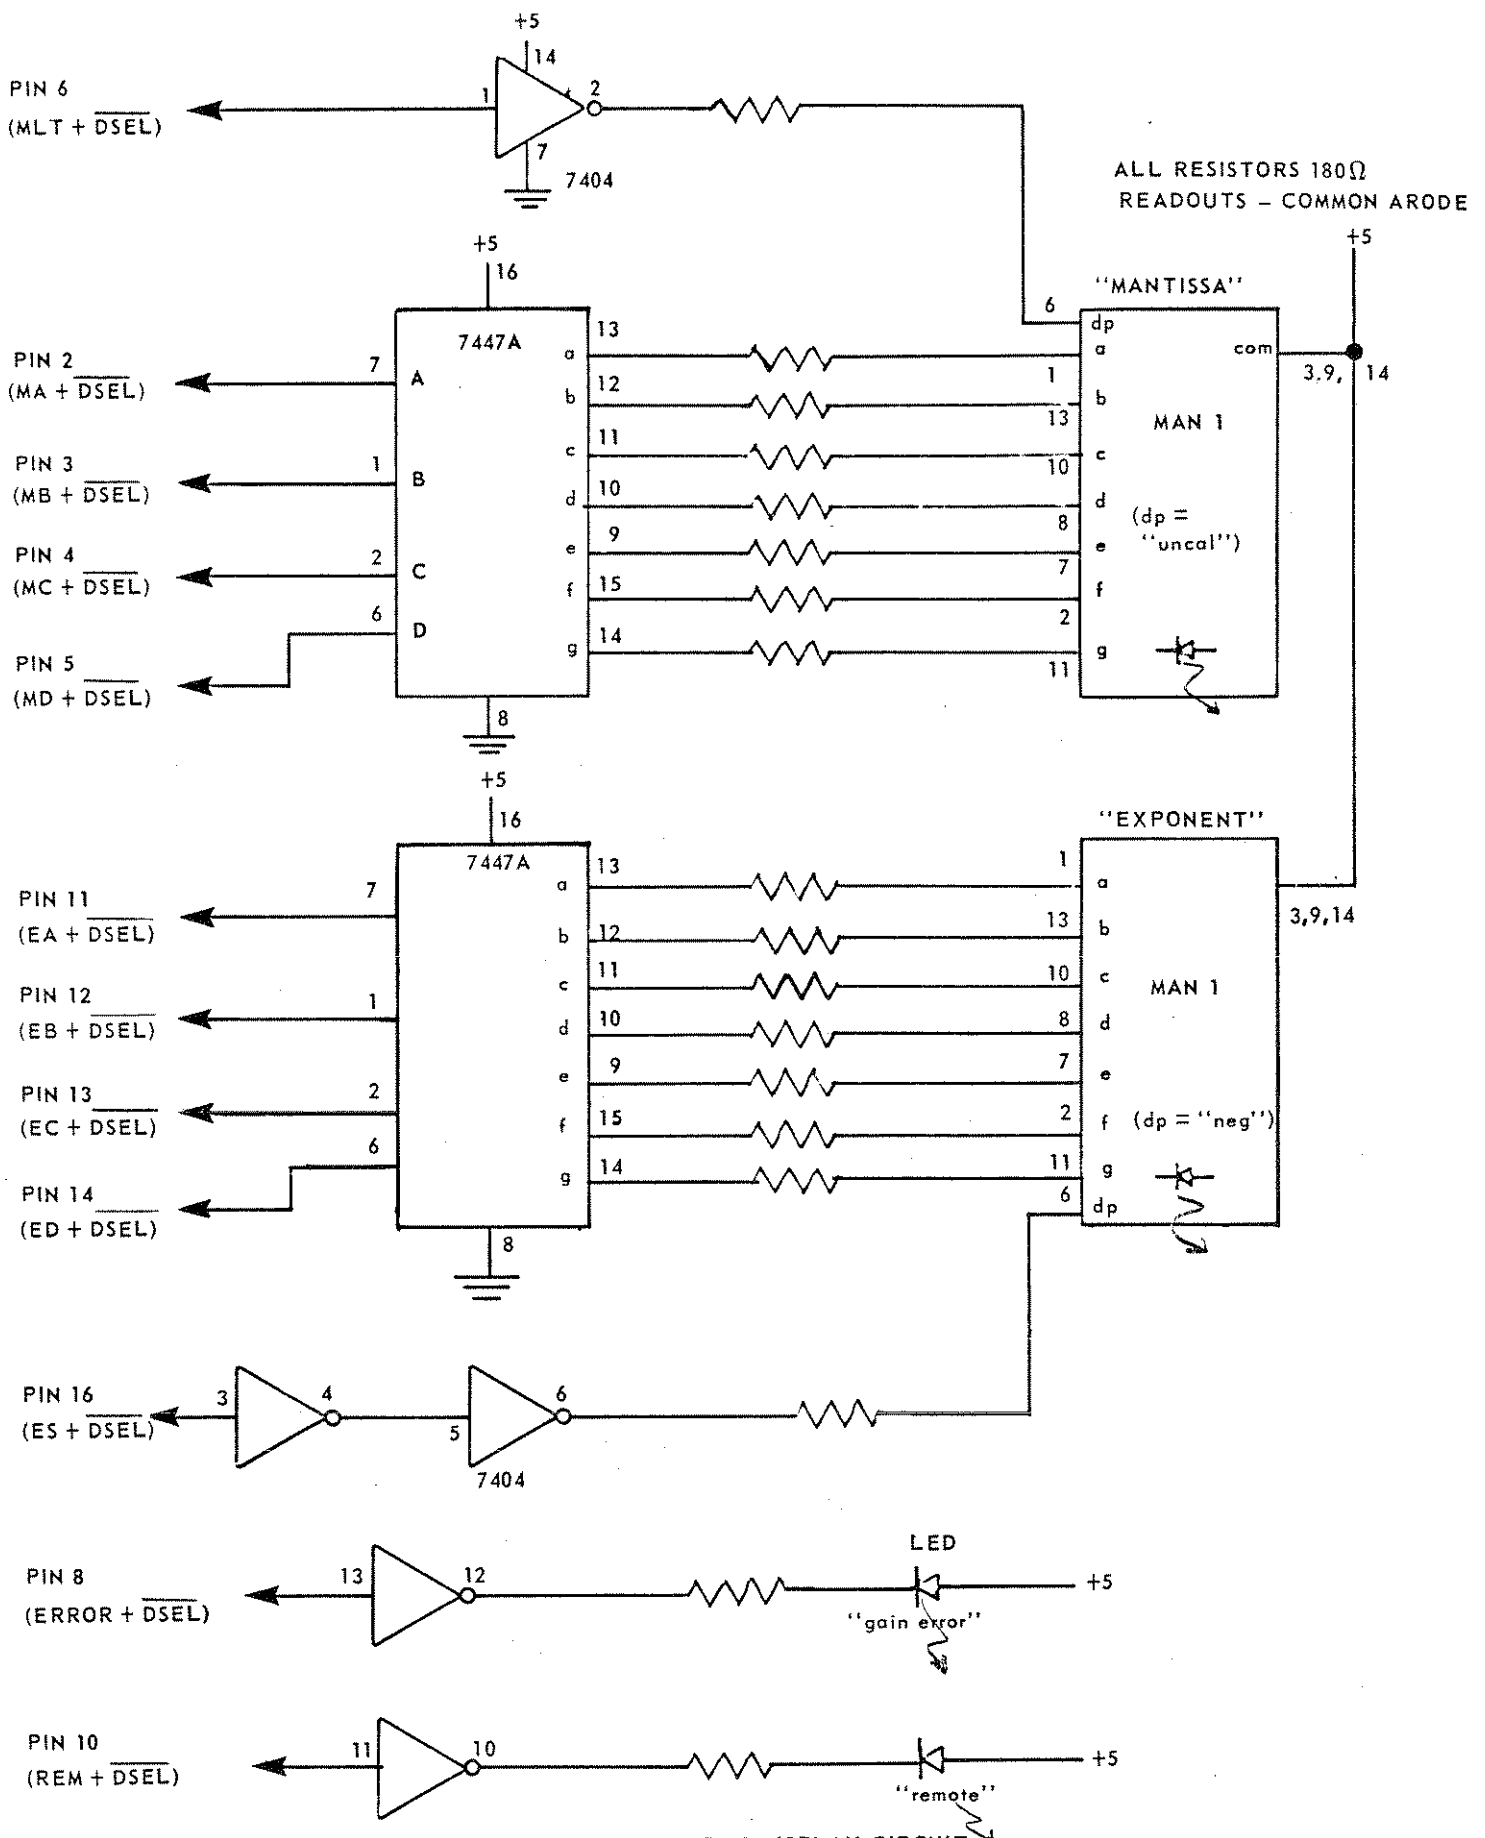

FIGURE 1.3.2 OUTPUT DISPLAY CIRCUIT
- a. Connect a display device to PINS 2, 3, 4, 5, 6, 11, 12, 13, 14, 16. PINS 7 and 15 may also be monitored. The circuit in Figure 1.3.2 is recommended if nothing else is available.